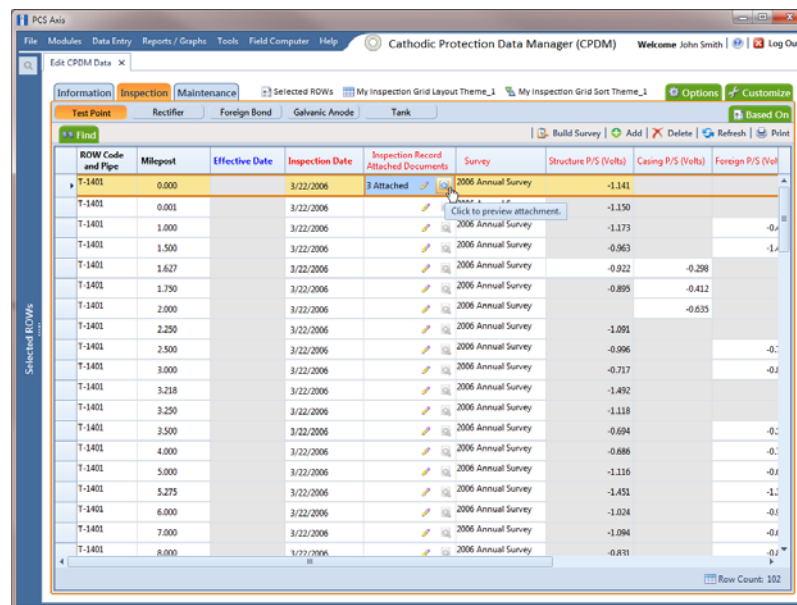

Figure 6-87. View Attached Document
- 4 Click the preview icon  for the grid record with the attached document (Figure 6-87).